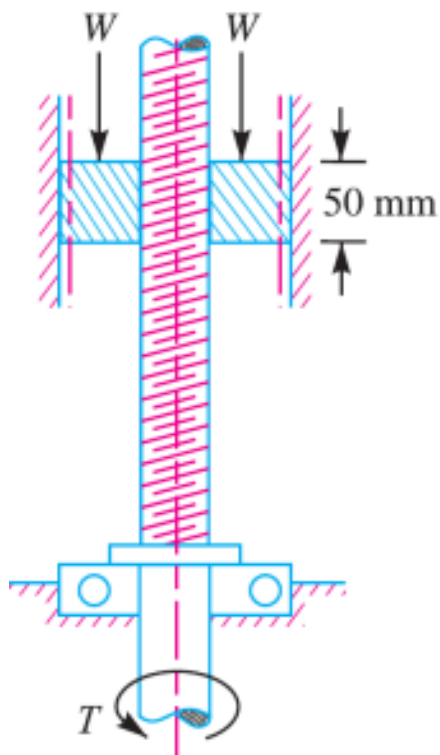
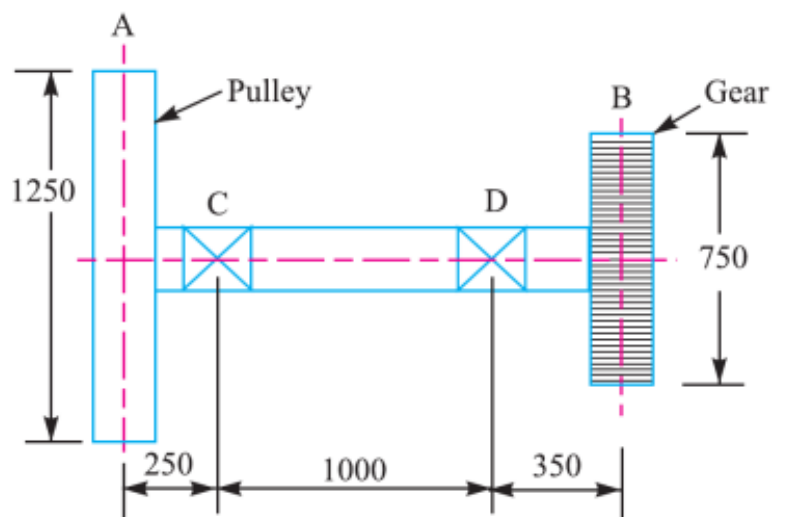
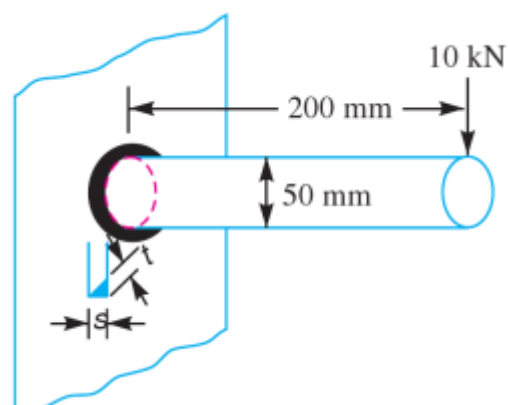

Figure 3
Figure 4
Figure 5
- 3A.** The screw, as shown in Figure 3 is operated by a torque applied to the lower end. The nut is loaded and prevented from turning by guides. Assume friction in the ball bearing to be negligible. The screw is a triple start trapezoidal thread. The outside diameter of the screw is 48 mm and pitch is 8 mm. The coefficient of friction of the threads is 0.15. Find: **(07)**
- 3B.** a) Differentiate between buttress threads and Trapezoidal threads (03)
- 4A.** Figure 4 shows a shaft carrying a pulley A and a gear B and supported in two bearings C and D. The shaft transmits 20 kW at 150 r.p.m. The tangential force F on the gear B acts vertically upwards as shown. The pulley delivers the power through a belt to another pulley of equal diameter vertically below the pulley A. The ratio of tensions T_1/T_2 is equal to 2.5. The gear and the pulley weigh 900 N and 2700 N respectively. The permissible shear stress for the material of the shaft may be taken as 63 MPa. Assuming the weight of the shaft to be negligible in comparison with the other loads, determine its diameter. Take shock and fatigue factors for bending and torsion as 2 and 1.5 respectively. (07)
- 4B.** A shaft made of mild steel is required to transmit 100 kW at 300 r.p.m. The supported length of the shaft is 3 meters. It carries two pulleys each weighing 1500 N supported at a distance of 1 meter from the ends respectively. Assuming the safe value of stress, determine the diameter of the shaft. (03)
- 5A.** A 50 mm diameter solid shaft is welded to a flat plate as shown in figure 5. If the size of the weld is 15 mm, find the maximum normal and shear stress in the weld. (05)
- 5B.** Find the efficiency of the following riveted joints: (05)